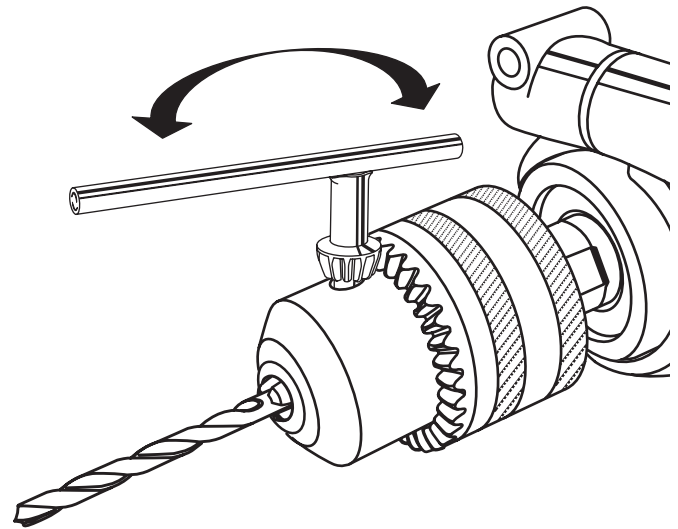

Fig. 3
See Figure 3.
2. Insert the chuck key and twist counterclockwise as shown in figure 3.